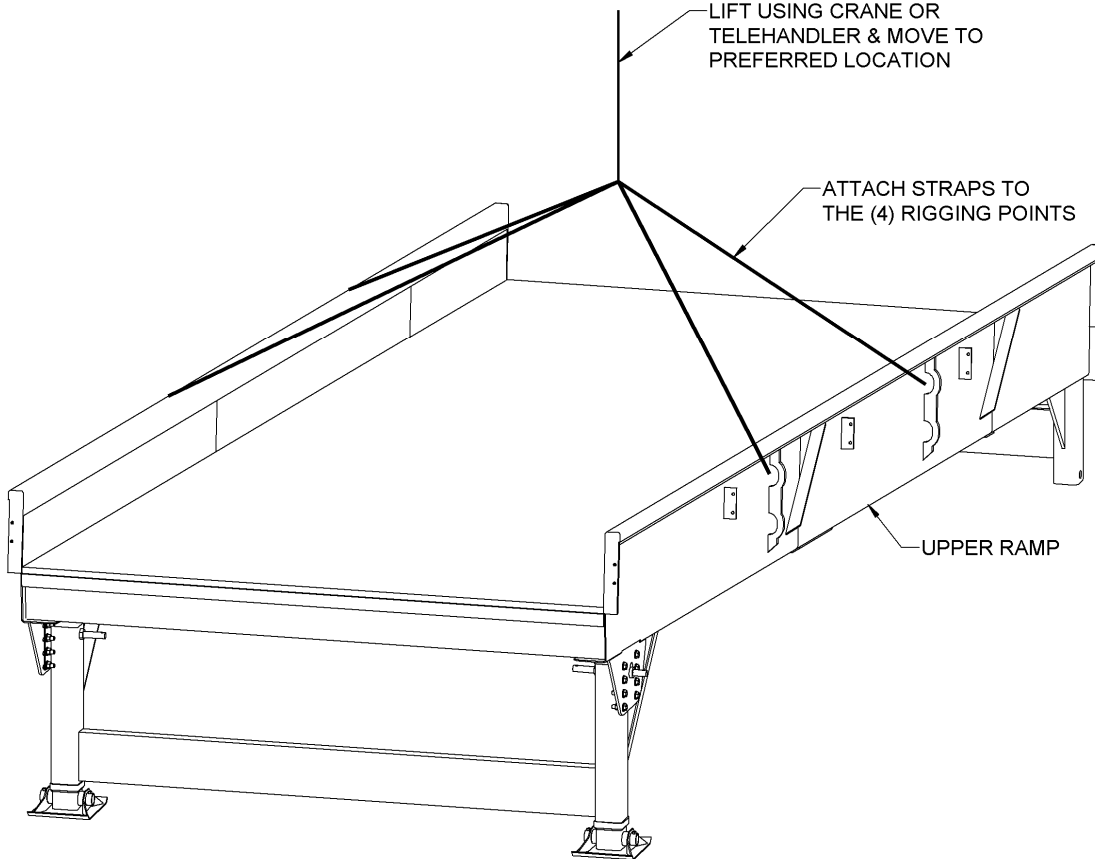

Figure 3a: Moving the Upper Ramp with Crane/Telescopic Handler
- a. **CRANE OR TELESCOPIC HANDLER (PREFERRED):** Attach straps/chains to the four lift points located on the sides of the ramp (Figure 3a). Slowly lift the ramp from the ground, move it to the desired location, and carefully lower.